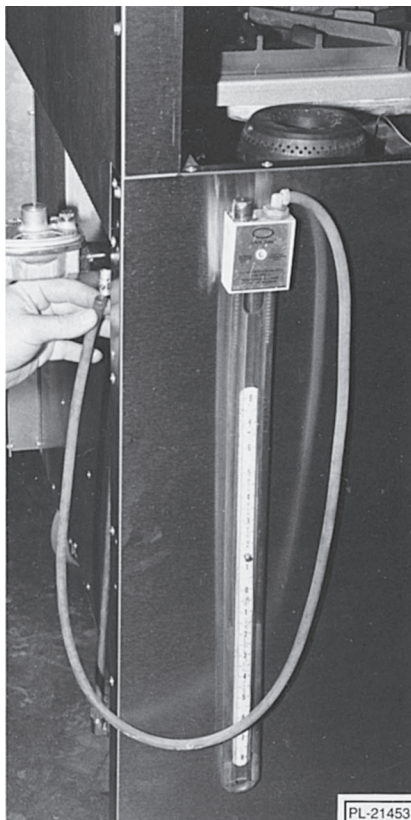

Fig. 23
1. Connect the manometer to the pressure tap provided on the manifold pipe near the regulator (Fig. 23).
1. Connect the manometer to the pressure tap provided on the rear manifold pipe (see Fig. 23).